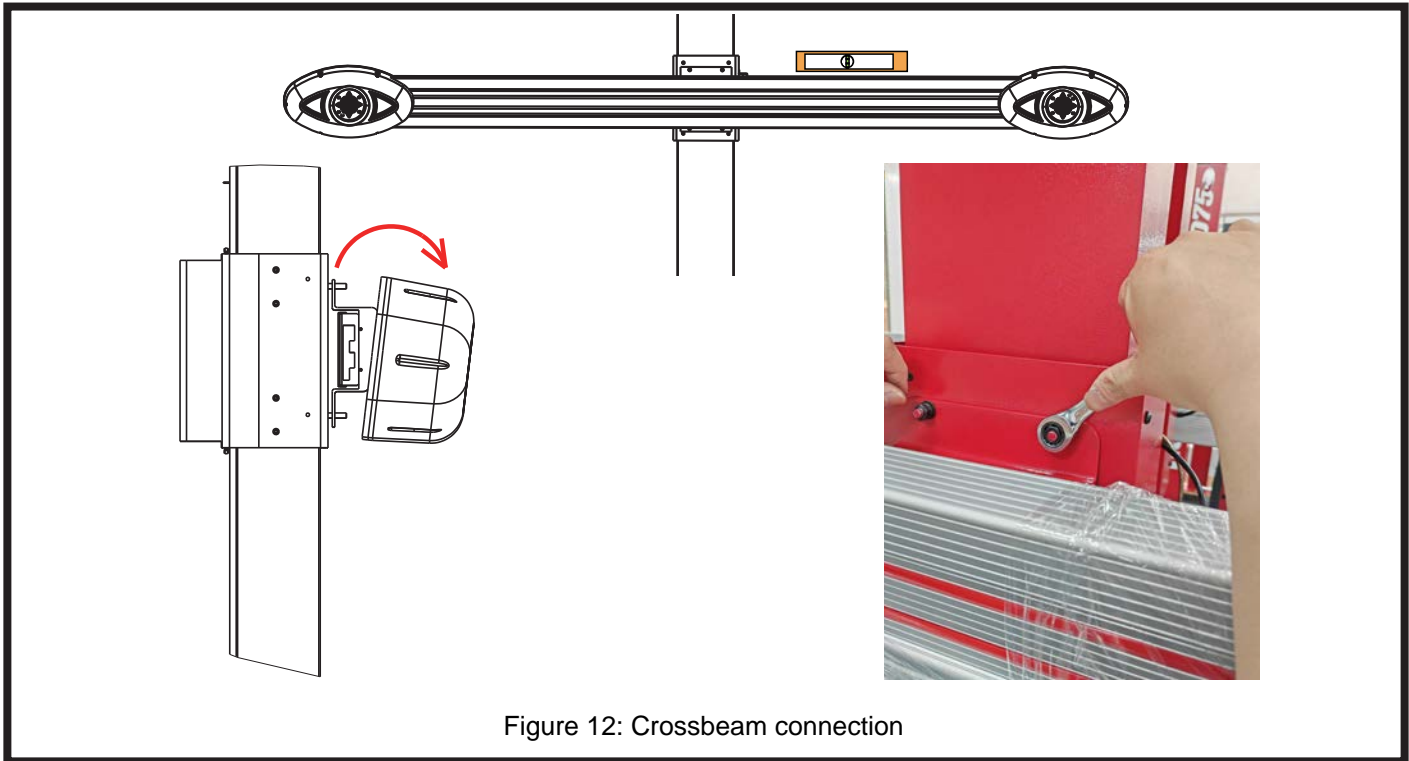

Figure 12: Crossbeam connection
- Loosen the 4 nuts in the column connection slider, then take the crossbeam from the package, and connect it to the column connection slider using the connection bolts. See figure 12.